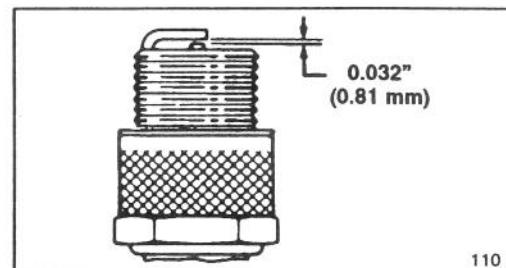

Figure 13
3. Set air gap at 0.032" (0.81 mm) (Fig. 13). Install correctly gapped spark plug and gasket seal. Tighten plug firmly to 15 ft-lb (20.4 N·m).